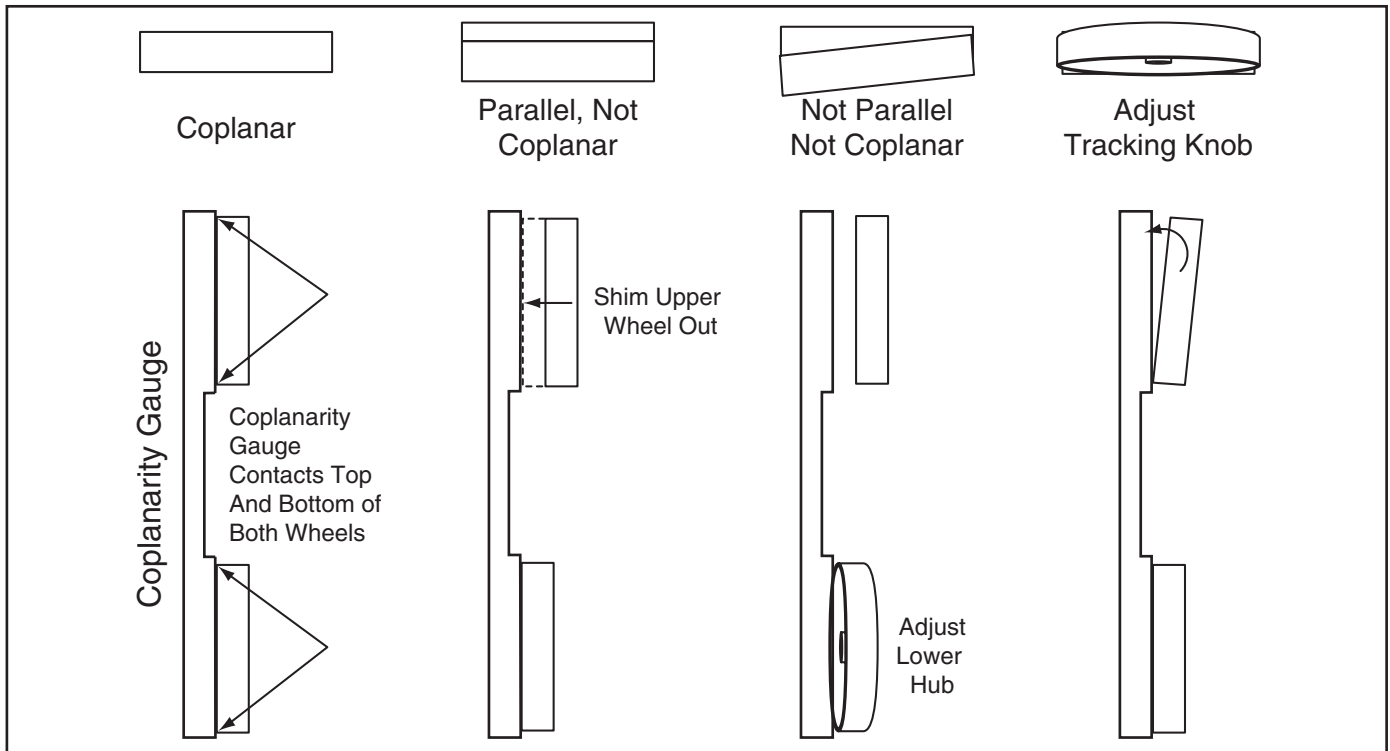

Figure 69. Coplanarity diagram.
9. **Figure 69** shows the positions of the wheels when coplanar. When your wheels are coplanar, reinstall the table, table insert, and pin, readjust the guide blocks and rear support bearings, and close the wheel covers.